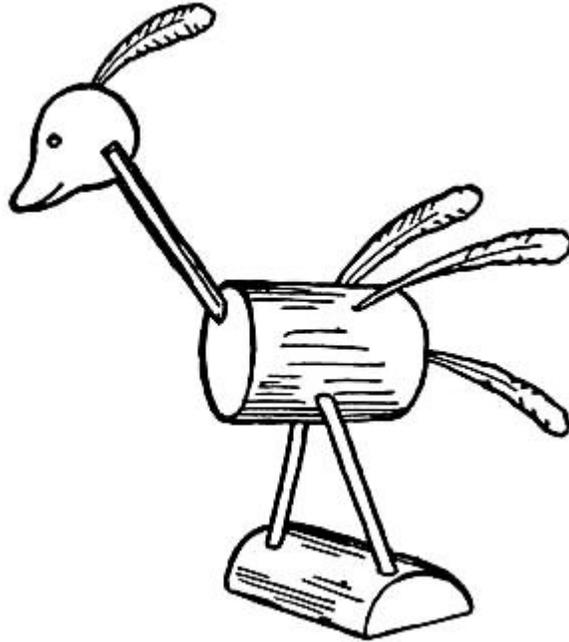

FIG. 401.—The Korka-bird.
**Other Animals** upon the same schemes as those just described, by consulting the pictures in one of these books. It is not necessary to always copy a real animal. Use your ingenuity and see what queer-looking creatures you can make. Figure 401 gives a suggestion for one of these, which we will call